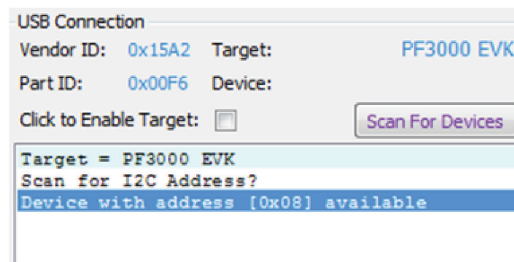

Figure 5. Confirmation of Available Device
3. In the PF3000 GUI window, click on the "Scan For Devices" button in the top-left portion. A confirmation message indicating that a valid device is available appears. (See Figure 5)